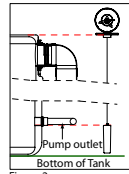

Figure 2
3. Whilst maintaining the same height of the Transmitter body slowly lower the float (no faster than 10cm/sec) until the top of the float is level with the bottom of the pump outlet (see Figure 2) and press SET once to confirm EMPTY height. Again, maintaining the same height of the Transmitter body and float move the red "Empty" indicator to where the black water level is pointing.